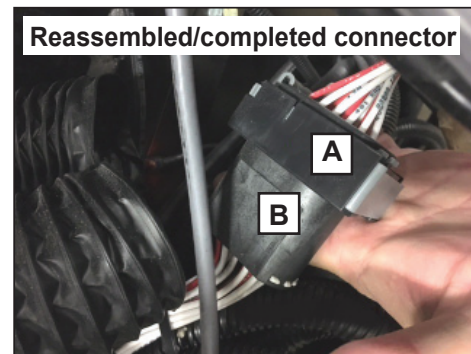

FIGURE A-10
- Once the connector is snapped together, push in the gray lock on the connector to re-engage the connector lock See Figure A-10.